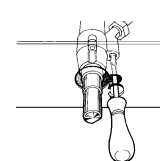

fig.10
- Remove the knob and turn the adjusting screw, situated to the right of the tap (fig. 10) until you obtain a regular small flame, using a screwdriver (loosening the screw increases the height of the flame, tightening decreases it).